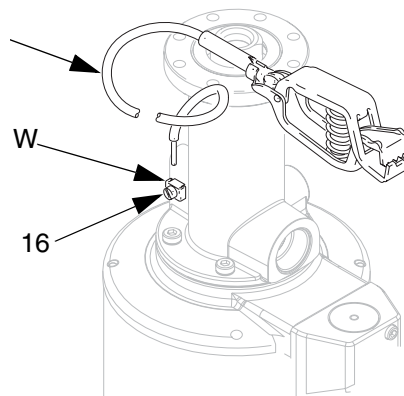

FIG. 1 Grounding Wire
1. *Pump:* use a ground wire and clamp. See FIG. 1. Insert one end of a 1.5 mm³ (12 ga) minimum ground wire (Y) into the pump's grounding clamp (16) and tighten the screw (W) securely. Connect the other end of the wire to a true earth ground. Order Part No. 238909 Ground Wire.